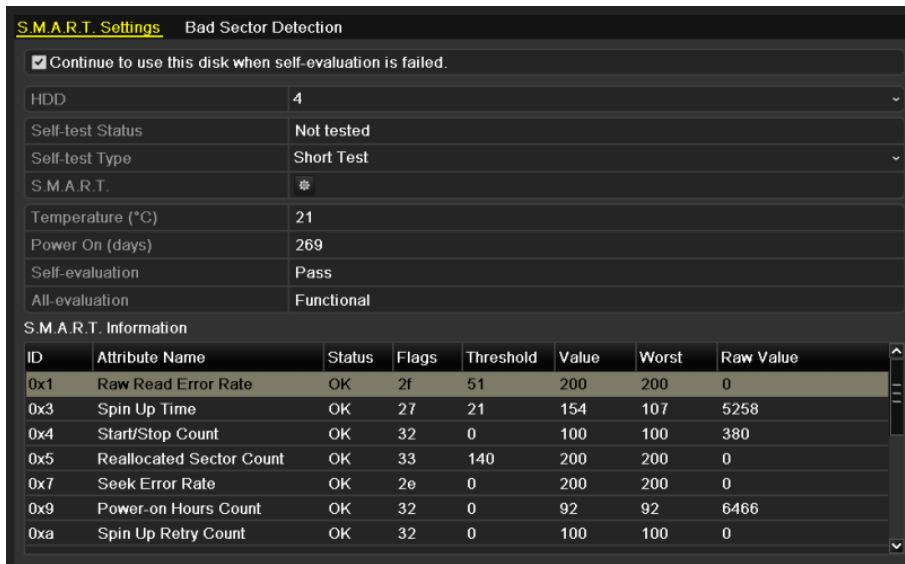

Figure 12-27 S.M.A.R.T. Settings Interface
Step 2 Select the HDD to view its S.M.A.R.T. information list, as shown in Figure 12-27.